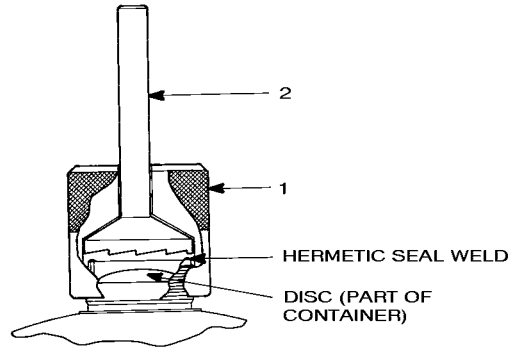

Figure 302. Disc Assembly Weld-Machining Tool
- (1) Put the cutter (Figure 302, 2) into the guide bushing (1) and install the guide bushing and cutter assembly on the outlet on the container.
- (2) Attach a low speed drill press or hand drill motor to the shank of the cutter and lower the cutter until it touches the joint.
- (3) Adjust the drill press to let the cutter go approximately 0.050 in. (0.127 cm) into the weld joint.
- (4) Turn the drill press at 60 to 80 rpm until the joint is broken. Use cutting oil during the machining operation.